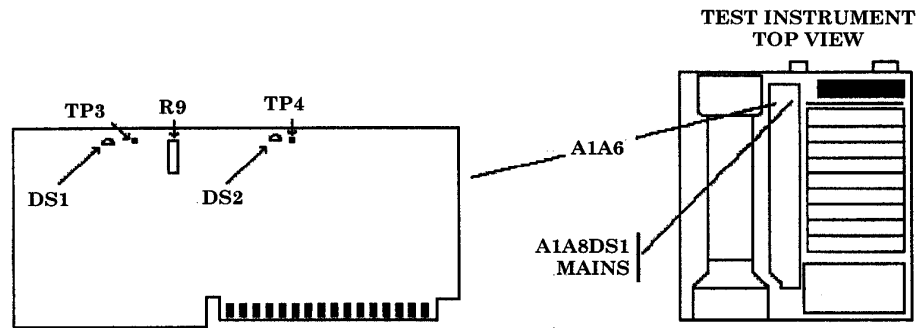
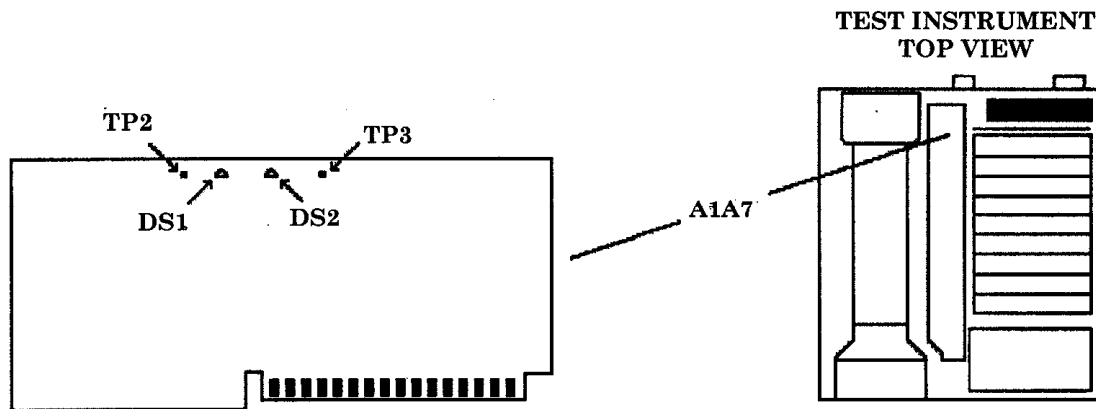
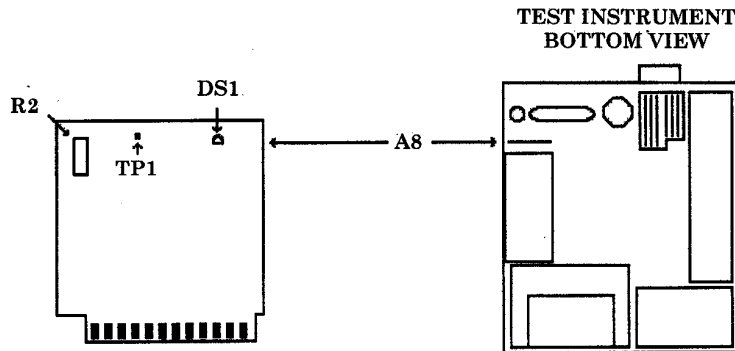

Figure 31. A1A6 board.
Figure 32. A1A7 Board
Figure 33. A8 board.
- (1) Set TI **LINE** switch to **STANDBY**.
- (2) Remove TI top cover.
- (3) Set **LINE** switch to **ON**.
- (4) Indicator A1A8DS1 MAINS (fig. 31) (red LED) should be lit.
- (5) Connect multimeter **HI** to A1A6TP3 (fig. 31) and multimeter **LO** to TI chassis.
- (6) The +15 V indicator A1A6DS1 (fig. 31) (yellow LED) should be lit.
- (7) Adjust A1A6R9 (fig. 31) for a multimeter indication of 15.000 ± 0.010 V dc (R).
- (8) Connect multimeter **HI** to A1A6TP4 (fig. 31) and multimeter **LO** to TI chassis.
- (9) The -15V indicator A1A6DS2 (fig. 31) (yellow LED) should be lit.
- (10) Multimeter should indicate -15.000 ± 0.050 V dc.
- (11) Connect multimeter **HI** to A1A7TP3 (fig. 32) and multimeter **LO** to TI chassis.
- (12) The 120 V indicator A1A7DS1 (fig. 32) should be lit.
- (13) Multimeter should indicate 120.0 ± 2.0 Vdc.
- (14) Connect multimeter **HI** to A1A7TP2 (fig. 32) and multimeter **LO** to TI chassis.
- (15) The 5.2 V indicator A1A7DS1 (fig. 32) (yellow LED) should be lit.
- (16) Multimeter should indicate 5.200 ± 0.050 V dc.
- (17) Disconnect multimeter from TI.
- (18) Position TI on its right side.
- (19) Remove TI bottom cover.
- (20) Connect multimeter **HI** to A8TP1 (fig. 33) and multimeter **LO** to TI chassis.
- (21) The 22 V indicator A8DS1 (fig. 33) (yellow LED) should be lit.
- (22) Adjust A8R2 (fig. 33) for a multimeter indication of 22.000 ± 0.020 V dc (R).